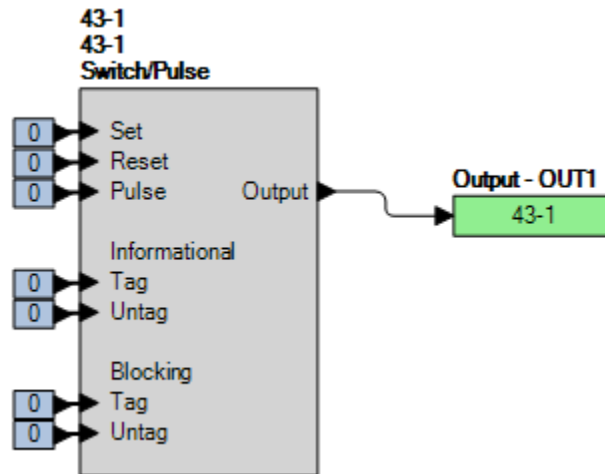

Figure 74-1. BESTlogic*Plus* Settings
Step 2: Use BESTCOMSPPlus to configure the BESTlogicPlus programmable logic shown in Figure 74-1.